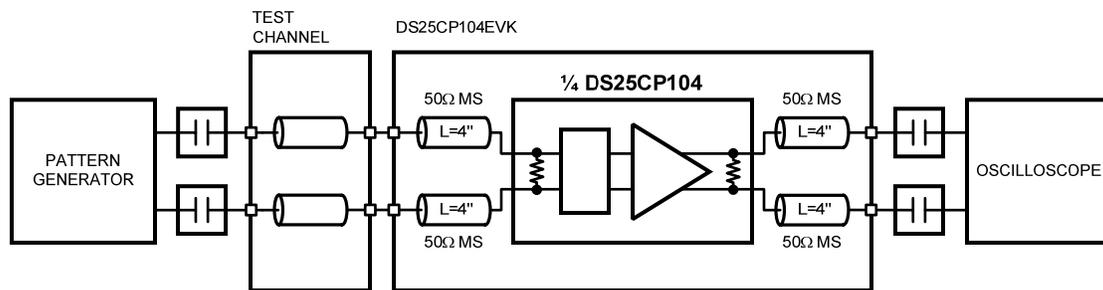

**Figure 5.** Pre-Emphasis Performance Test Circuit
1. Configure the test setup as shown in figure 5; select the desired test channel lengths in Table 7.